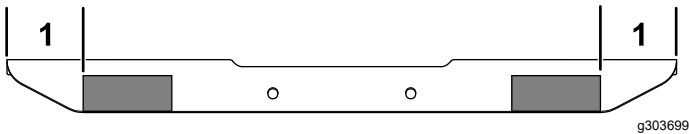

Figure 14
4. Apply the yellow reflective tape to the light cross mount using the dimensions shown in Figure 14.